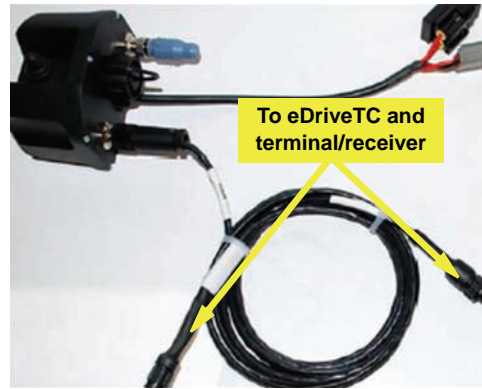

Figure 4e: CAN cables to eDriveTC and terminal/receiver
- f. Connect, according to the cable labeling, the two other connectors on CAN cable **O** to the EDRIVETC and the TERMINAL/RECEIVER (Figure 4e).